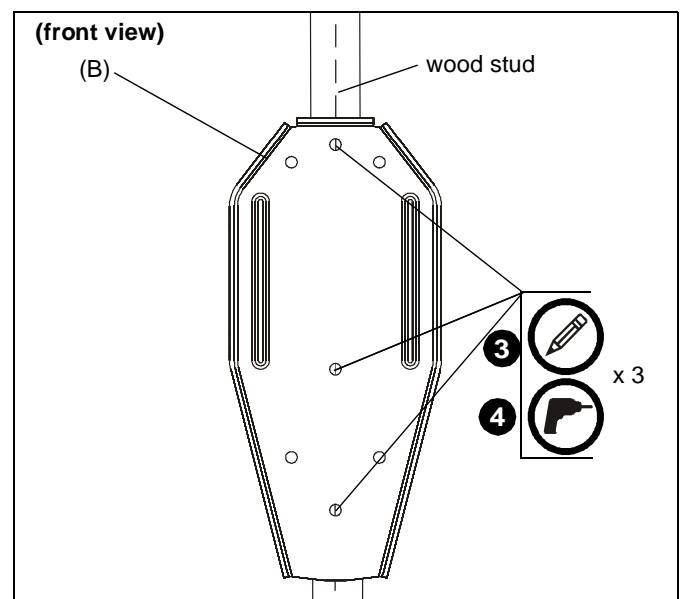

Figure 3
2. Line up inner three holes on wall bracket (B) with center of stud at desired mounting location. (See Figure 3)
3. Using wall bracket (B) as a template, mark three holes at inner three holes in bracket. (See Figure 3)
4. Drill three 7/32" x 2-1/2" deep holes at locations marked in Step 3. (See Figure 3)